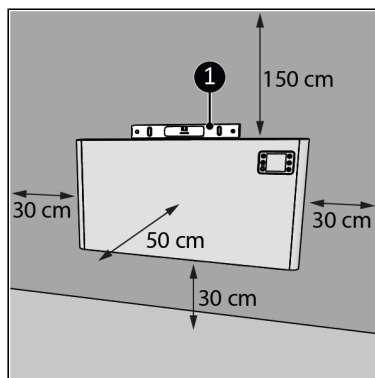

Figure 26.
1. Place the device on a vertical and solid surface. Use a spirit level when placing the device (Figure 26, pos. 1).
2. Place the device with a minimum distance (Figure 26) of: